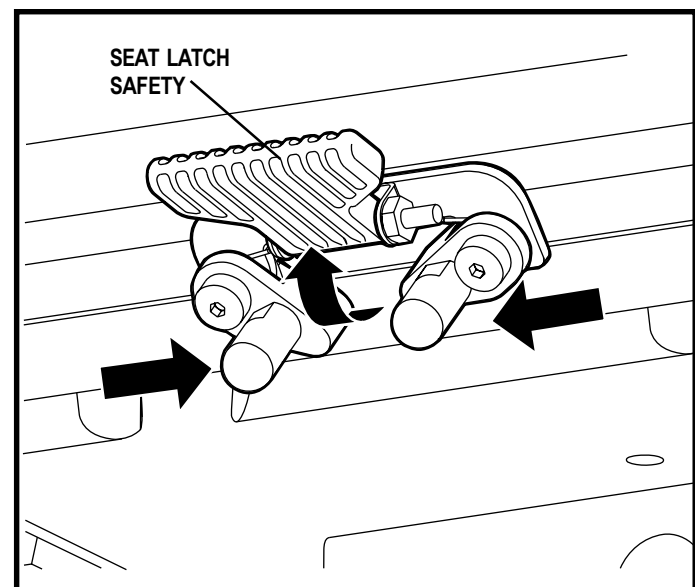

Figure 9. Seat Latch
5. Flip up the seat latch safety to release the seat from the front trapeze bar. See figure 9.